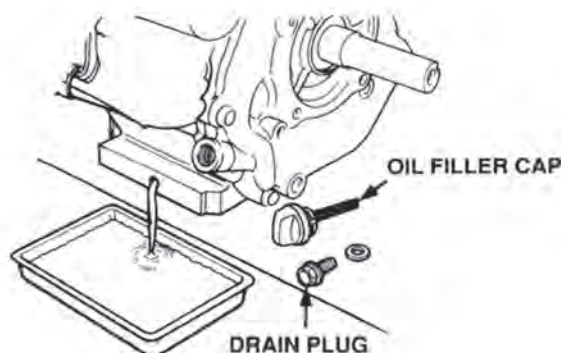

FIGURE-8
6.2.4 Remove the oil filler dipstick/cap and drain plug. Allow oil to drain from the engine (refer to Figure-8).